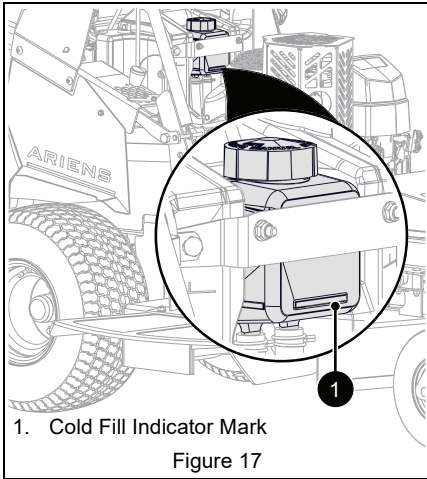

Figure 17
See Figure 17.
3. Fill the expansion tank with 15W-50 synthetic motor oil (Ariens p/n 00057100) or equivalent until oil reaches the cold fill indicator mark. See Figure 17.